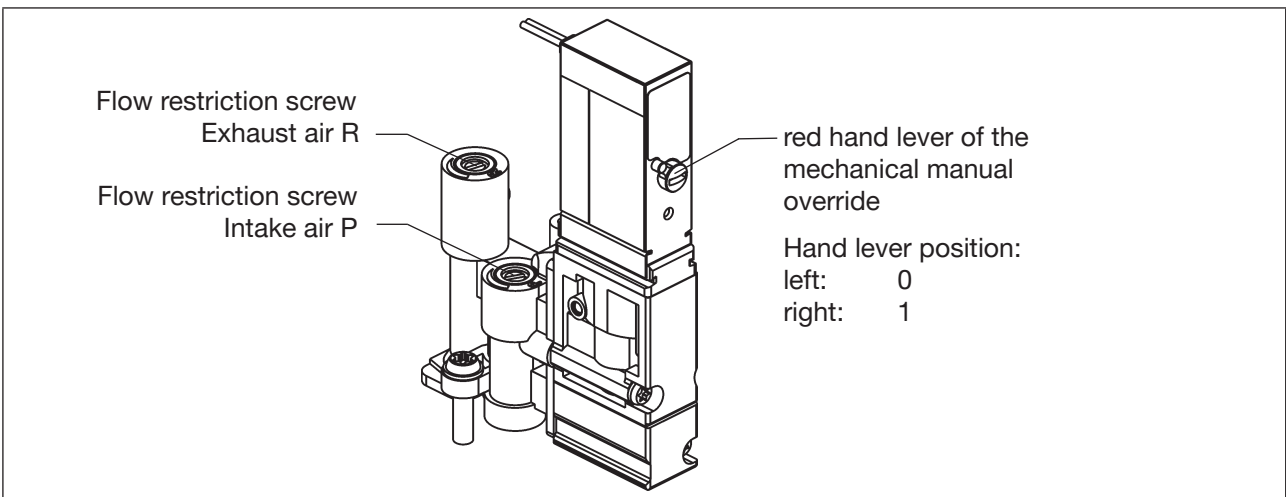

Fig. 15: Flow restriction screws and mechanical manual override of the solenoid valves
The flow restriction screws of the solenoid valves (see “Fig. 15: Flow restriction screws and mechanical manual override of the solenoid valves”) are used for setting the air intake and exhaust for the working connections and so be able to influence the expansion and retraction rates of the process valve:
- Observing the safety guidelines, activate the respective valve location (V1, V2 or V3) to be set (either using the system controller or the respective mechanical override on the solenoid valve - see “Fig. 15”).